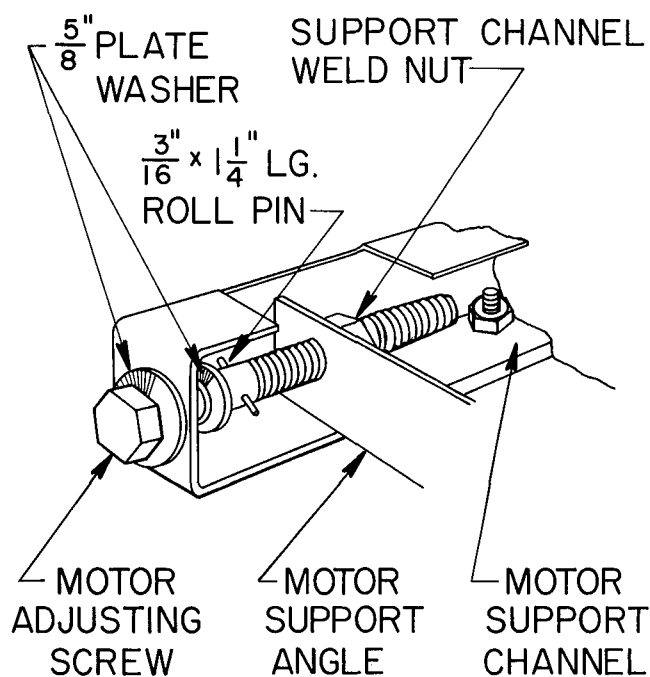

Fig. 10 — Assembled Fan Motor Adjusting Screw
- Assemble and install motor adjusting screws as shown in Fig. 10. Drive roll pins into screws to prevent screws from backing out during motor position adjustment.